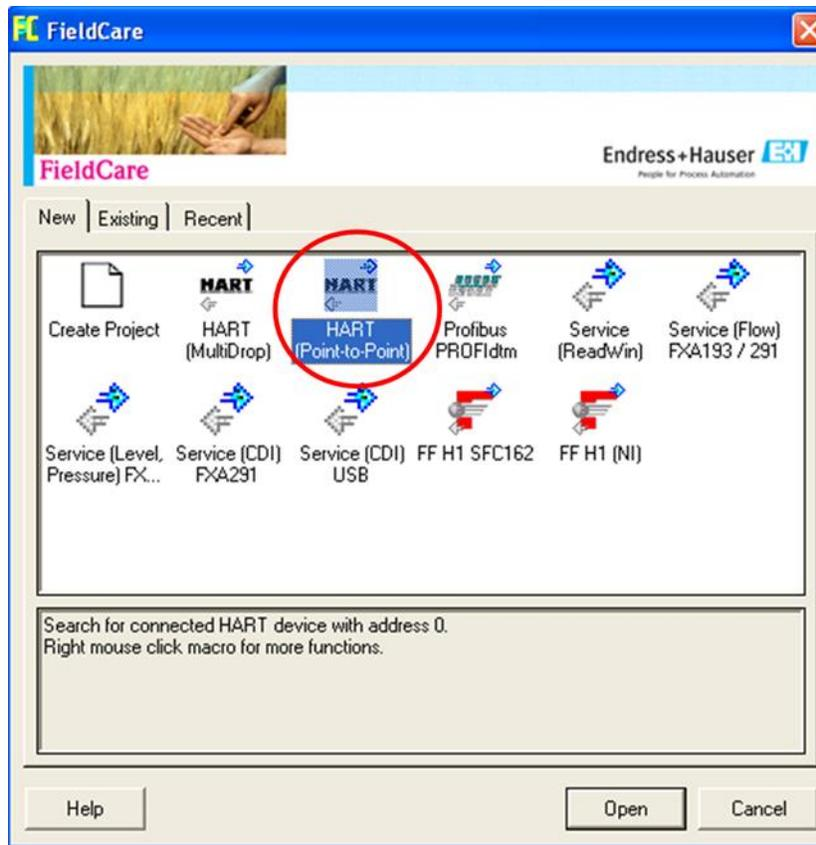

Figure 2-3. Select the connection type.
5. The first screen that appears when the FC tool starts (fig. 2-3) will ask the user to select a connection type. Select **HART Point-to-Point**.